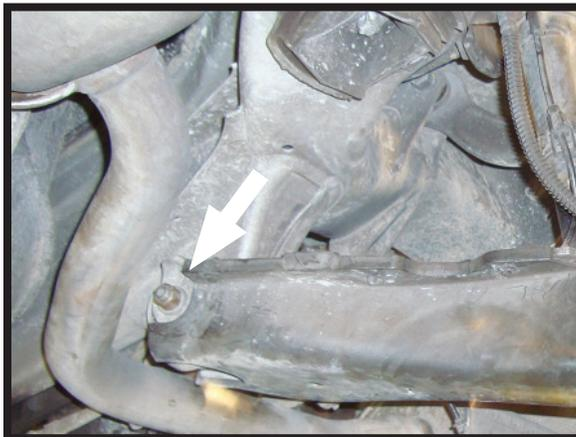

FIGURE 15
14. LOOSEN THE LOWER CONTROL ARM NUT SLIGHTLY (THIS WILL ALLOW THE LOWER CONTROL ARM TO SWING DOWN). (FIGURE 15)